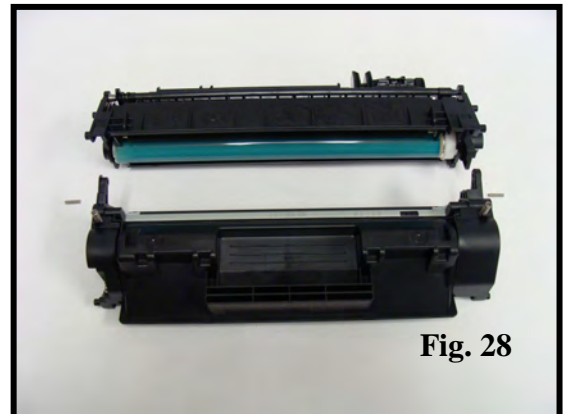

Fig. 28
28. Secure the two halves with the cartridge pins (Fig. 28).